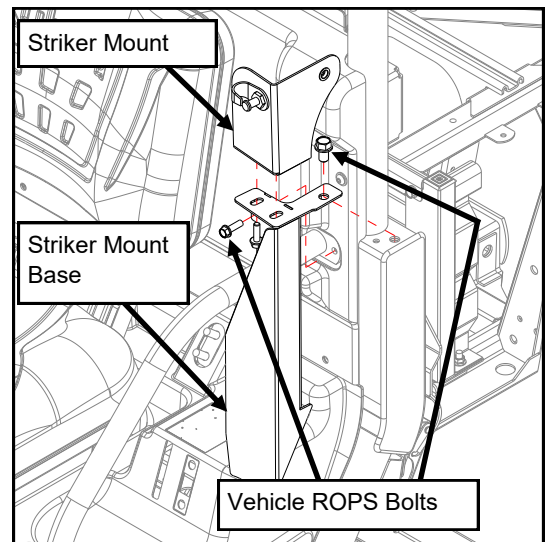

Fig. 3
3. Remove lower rear ROPS bolt (M12) and upper rear hip restraint bolt (M8) on left side of vehicle. Save the (M12) for re-use. (see fig. 3)
4. Loosely install the Striker Mount onto Striker Mount Base using (2) 5/16-18 hex flange screws. Note: Screws should initially be located roughly in the center of the slots and finger tight. Later, during door installation, the striker mount may need to be adjusted.
5. Install Striker Mount Base using the (M12) vehicle ROPS bolt removed in step 3 and (1) of the supplied M8 X 25LG hex flange screw, replacing the upper rear hip restraint bolt. Note: Be sure to press the bottom of the striker mount base against the lower vehicle ROPS to compress the pre-installed foam tape while tightening the fasteners.